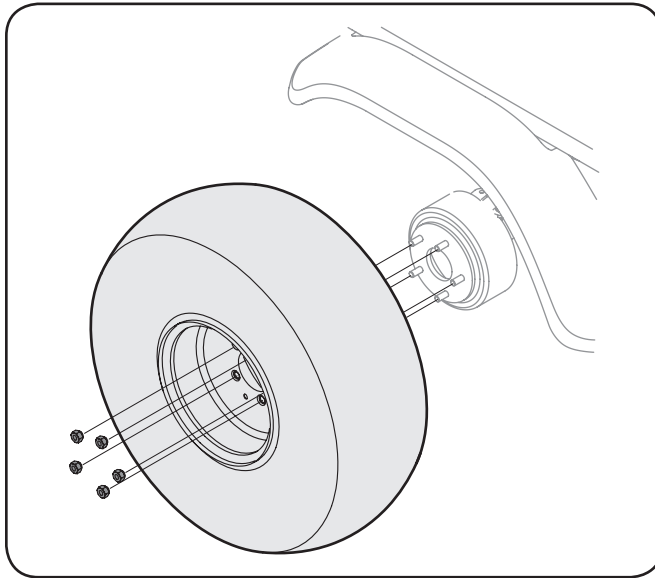

Figure 6-18
3. Loosen but do not remove the five lug nuts from the axle hub. See Figure 6-18.